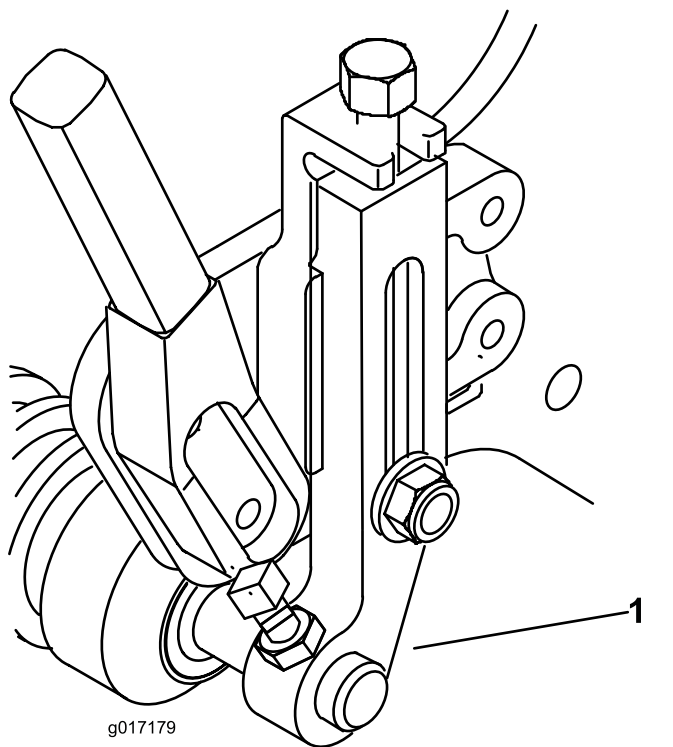

Figure 2
- Greensmaster 1600 mowers—obtain 2 new height-of-cut arms from your authorized Toro distributor and install them onto the roller assembly and side plates with the fasteners removed previously (Figure 2).
- Greensmaster 800 and 1000 mowers—rotate the height-of-cut arms you removed previously to the forward position and install them onto the roller assembly and side plates with the fasteners removed previously (Figure 2).